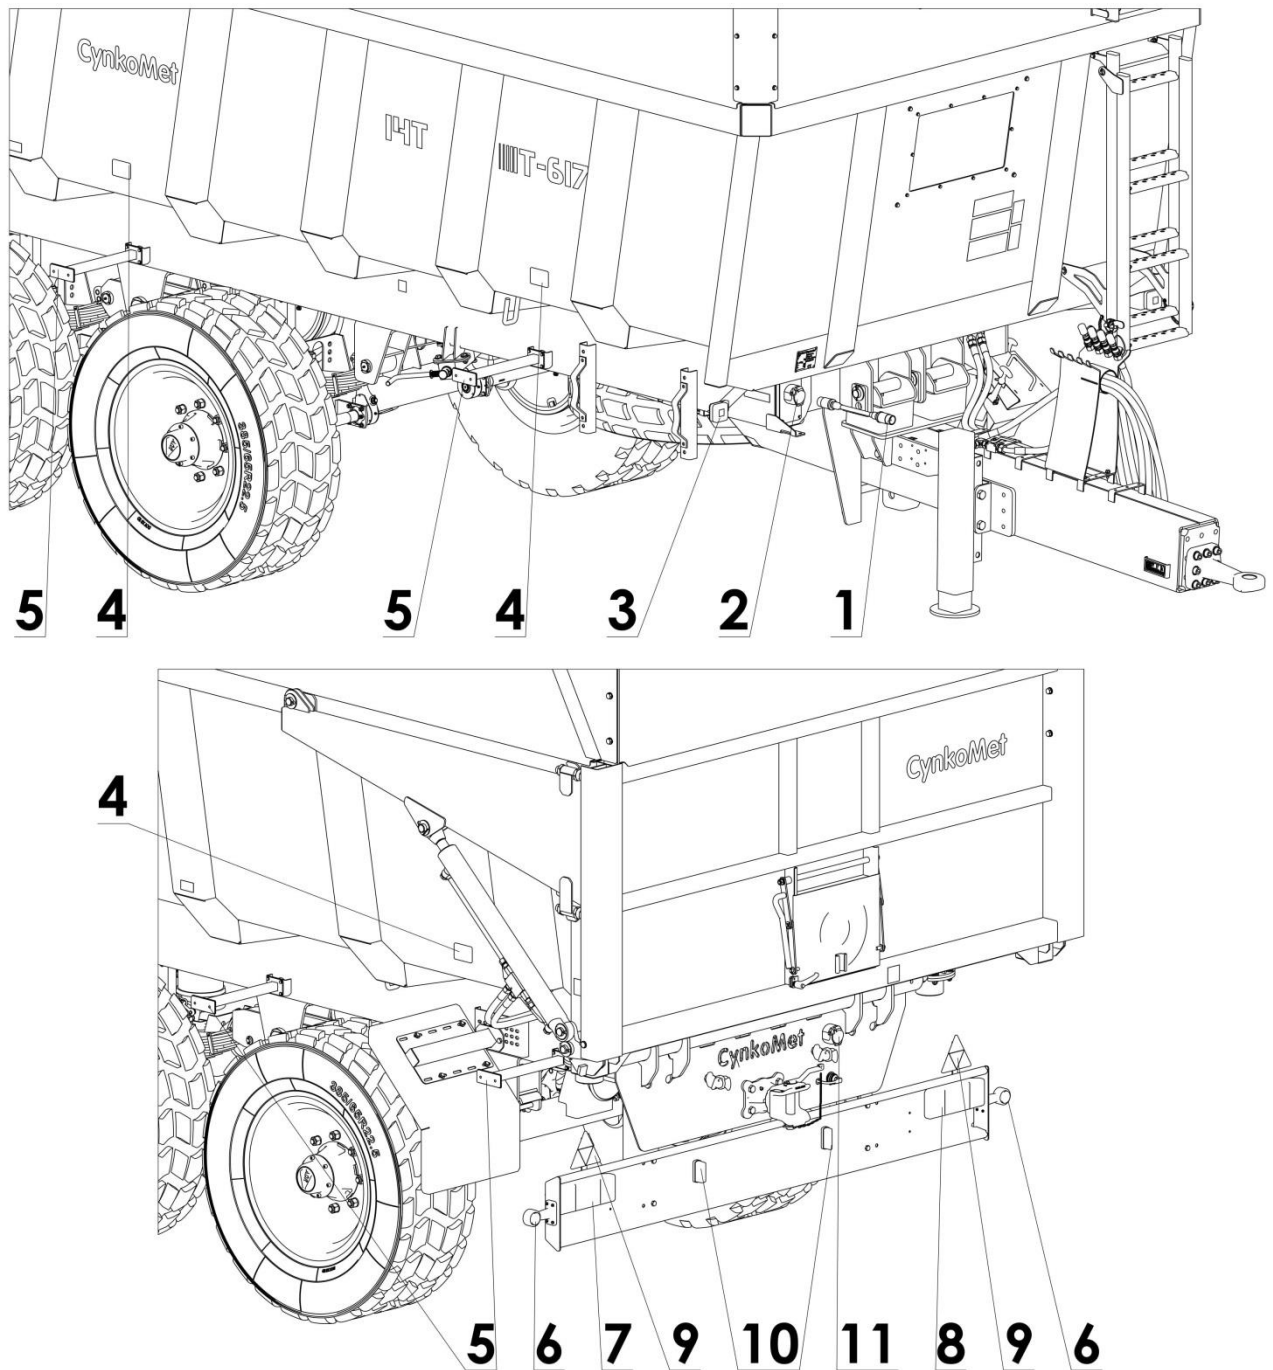

Figure 17. Lighting and signaling diagram
The socket (11) of the connector (fig. 17) is used to connect the electrical system of the second trailer.